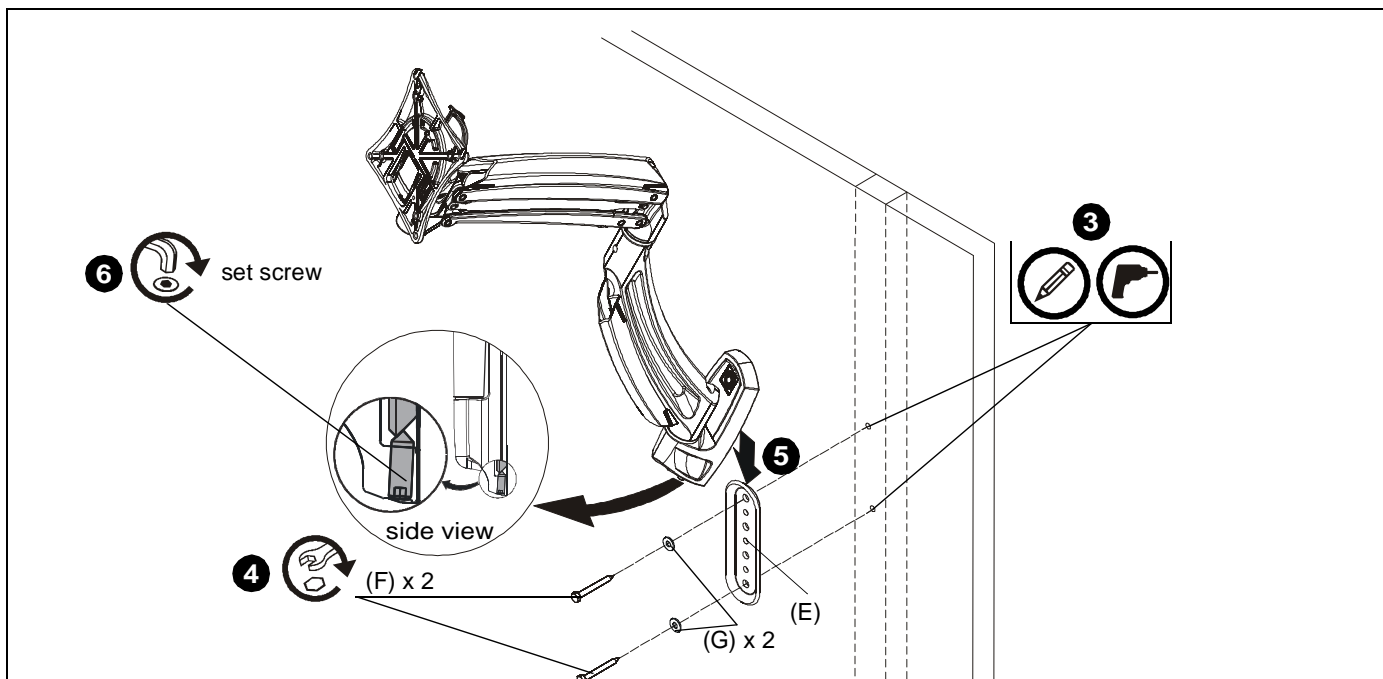

Figure 6
3. Use wall bracket to mark and drill two 3/16 x 2 1/2" holes in wall at desired mounting location. (See Figure 6)
4. Use two 1/4-2 1/2" hex head lag screws (F) and two 1/4" washers (G) to install wall bracket onto wall. (See Figure 6)
**IMPORTANT !** : Overtightening screws (F) may cause bracket to compress into soft wall surface resulting in difficult mount installation or improper engaging of set screw in Step 6.
5. Hang monitor arm (A) over wall bracket. (See Figure 6)
6. Secure monitor arm to wall bracket by tightening set screw. Ensure set screw engages back side of wall bracket (E) to properly secure mount. (See Figure 6)